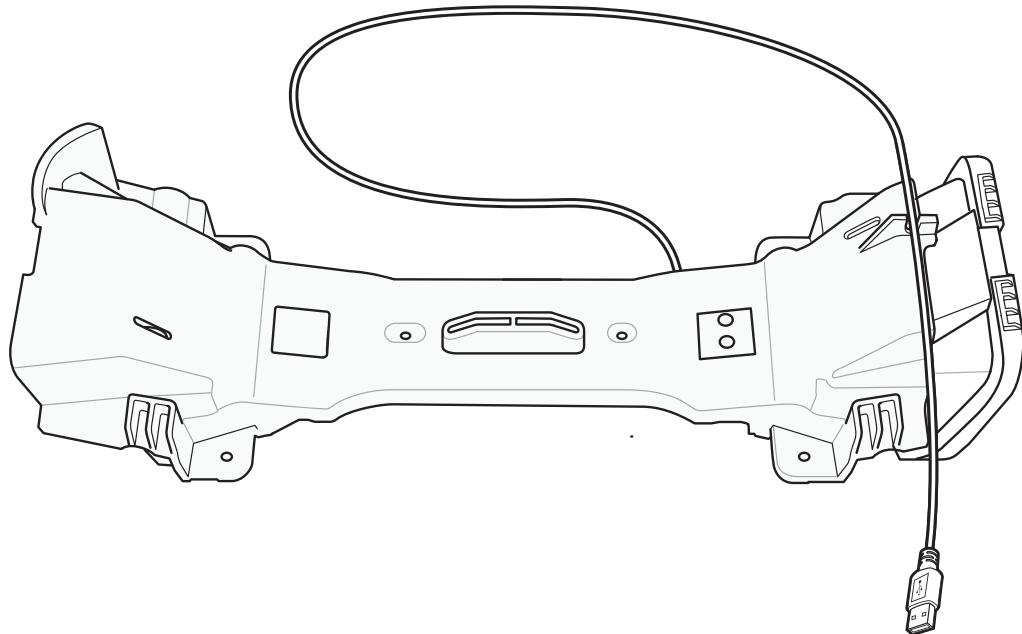

Figure 7-14 Routing the USB Cable
12. Insert the USB cable into the clip on the top of the bracket as shown in Figure 7-14. Leave approximately 240 mm (9.5 in.) of the cable free to store inside the tower housing.